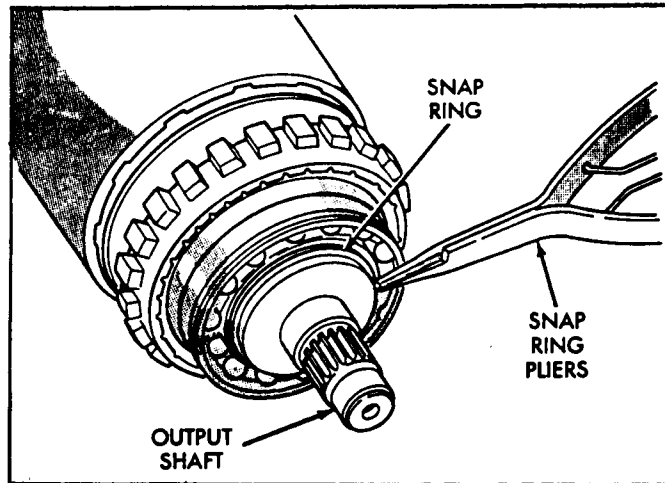

Figure 9
11. Remove the snap ring that retains the rear bearing on output shaft, as shown in Figure 9.